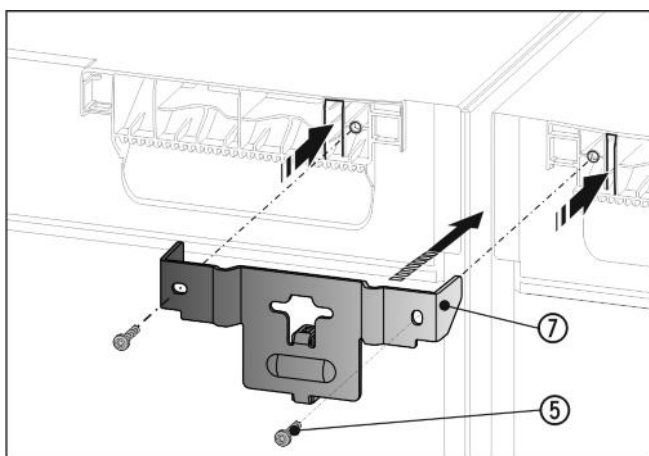

Fig. 9
- Slide the bracket Fig. 9 (7) onto the top of the appliance with the lugs and with the spacer between the appliances. Screw in firmly with the 2 screws Fig. 9 (5).